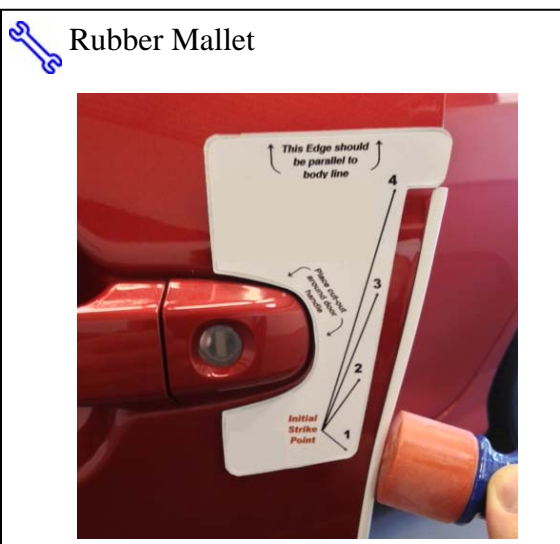

Fig. 2-5
- (iii) While holding DEG in proper alignment with one hand, use **soft side of the rubber mallet** to begin tapping the channel onto the door edge starting at Striking Point #1 (~3" inches below the top of the DEG), working your way to the top of the DEG. (Fig 2-5) Ensure top of DEG is fully engaged on the door edge before proceeding to next step.